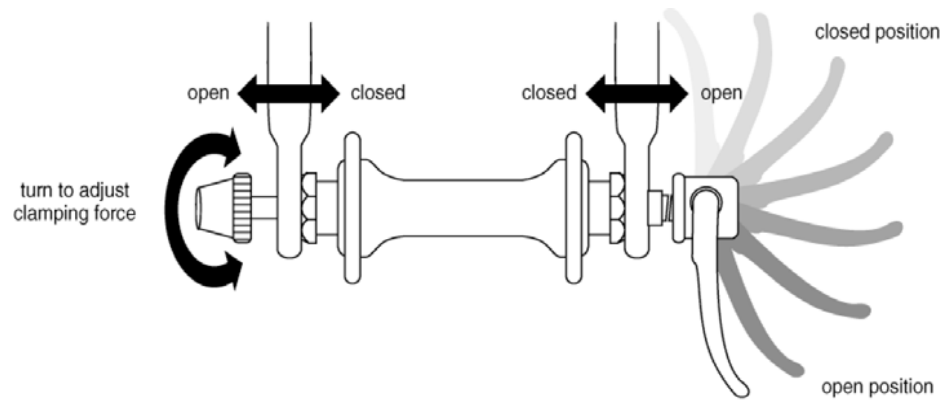

fig. 6
1. Wheel Quick Release Description. The wheel quick release uses a cam action to clamp the bike's wheel in place (see fig. 6). Because of its adjustable nature, it is critical that you understand how it works, how to use it properly, and how much force you need to apply to secure the wheel.
- (3) Holding the quick-release lever in the OPEN position with your right hand, tighten the tension adjusting nut with your left hand until it is finger tight against the fork dropout (fig. 6).
- (4) While pushing the wheel firmly to the top of the slots in the fork dropouts, and at the same time centering the wheel rim in the fork, move the quick-release lever upwards and swing it into the CLOSED position (fig. 6 & 7a). The lever should now be parallel to the fork blade and curved toward the wheel. To apply enough clamping force, you should have to wrap your fingers around the fork blade for leverage, and the lever should leave a clear imprint in the palm of your hand.
- (5) If the lever cannot be pushed all the way to a position parallel to the fork blade, return the lever to the OPEN position. Then turn the tension-adjusting nut counterclockwise one-quarter turn and try tightening the lever again.
- (6) Re-engage the brake quick-release mechanism to restore correct brake pad-to-rim clearance; spin the wheel to make sure that it is centered in the frame and clears the brake pads; then squeeze the brake lever and make sure that the brakes are operating correctly.
- (1) Shift the rear derailleur to its outermost position and pull the derailleur body back with your right hand.
- (2) Put the chain on to the smallest sprocket. Then, insert the wheel into the frame dropouts and pull it all the way in to the dropouts. The axle nut washers should be on the outside, between the frame and the axle nut.
- (3) Using the correct size wrench, tighten the axle nuts as tightly as you can.
- (4) Push the rear derailleur back into position.
- (5) Re-engage the brake quick-release mechanism to restore correct brake pad-to-rim clearance; spin the wheel to make sure that it is centered in the frame and clears the brake pads; then squeeze the brake lever and make sure that the brakes are operating correctly.
B. Seatpost Quick Release. Some bikes are equipped with a quick-release seat post binder. The seatpost quick-release binder works exactly like the wheel quick-release (Section 4.A.1). While a quick release looks like a long bolt with a lever on one end and a nut on the other, the quick release uses a cam action to firmly clamp the seat post (see fig. 6).